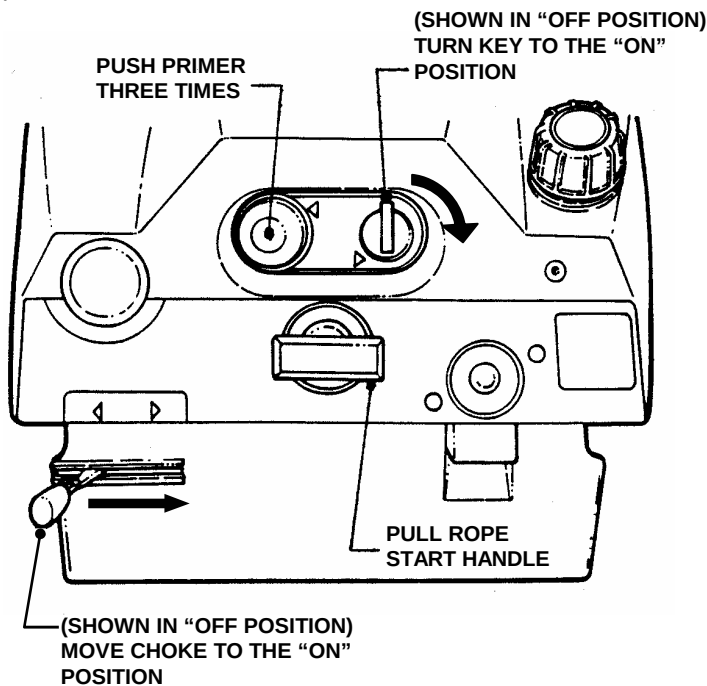

FIGURE 3.4
1. Move choke control to the choke "ON" position. See Figure 3.4.